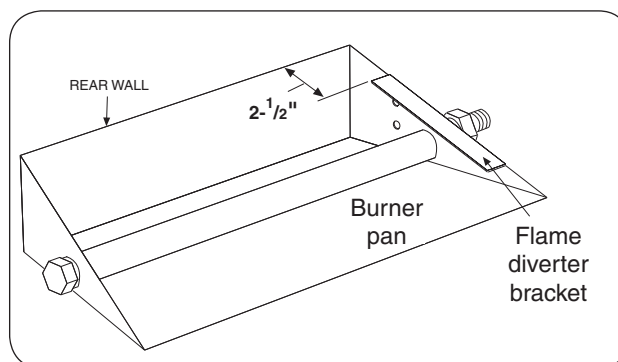

Fig. 8-3
1. Place the flame diverter bracket over the side edge of the burner pan, near the location the safety control system pilot bracket will be attached. It should be placed **approximately 2-1/2"** from the rear wall of the burner pan (see Fig. 8-3).